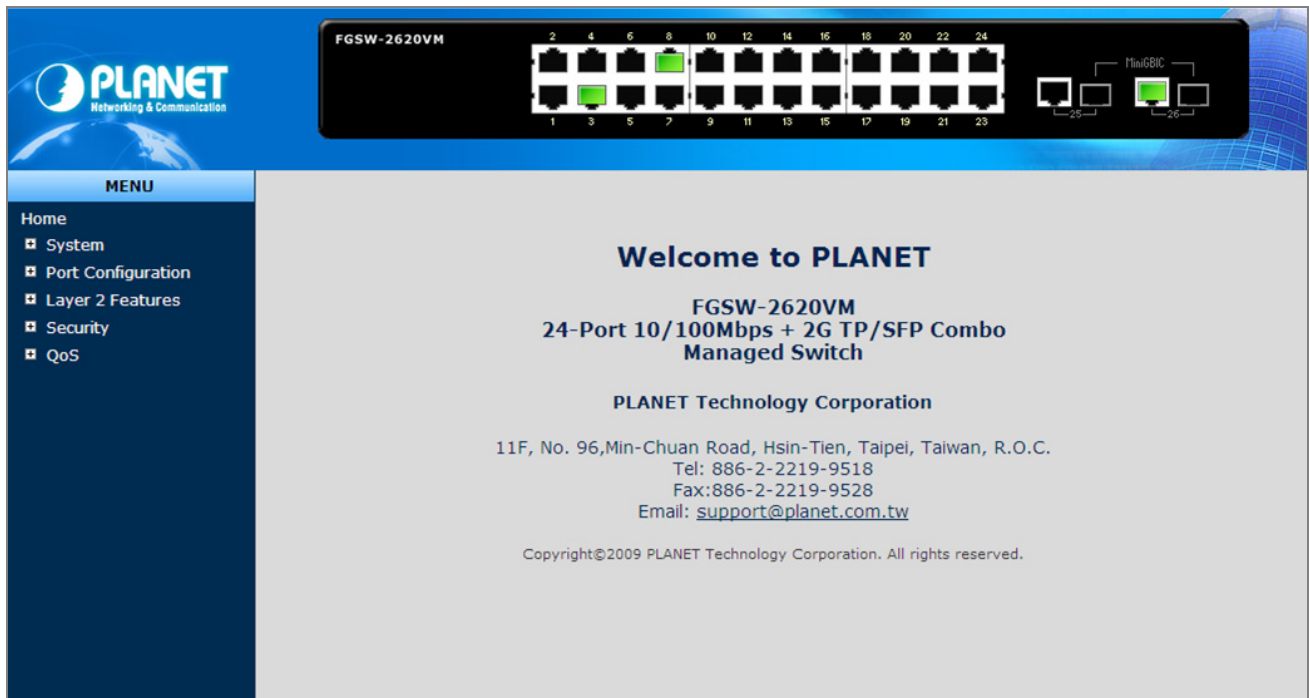

Figure 4-1-2: Web main page
1. After entering the username and password, the main screen appears as Figure 4-1-2.